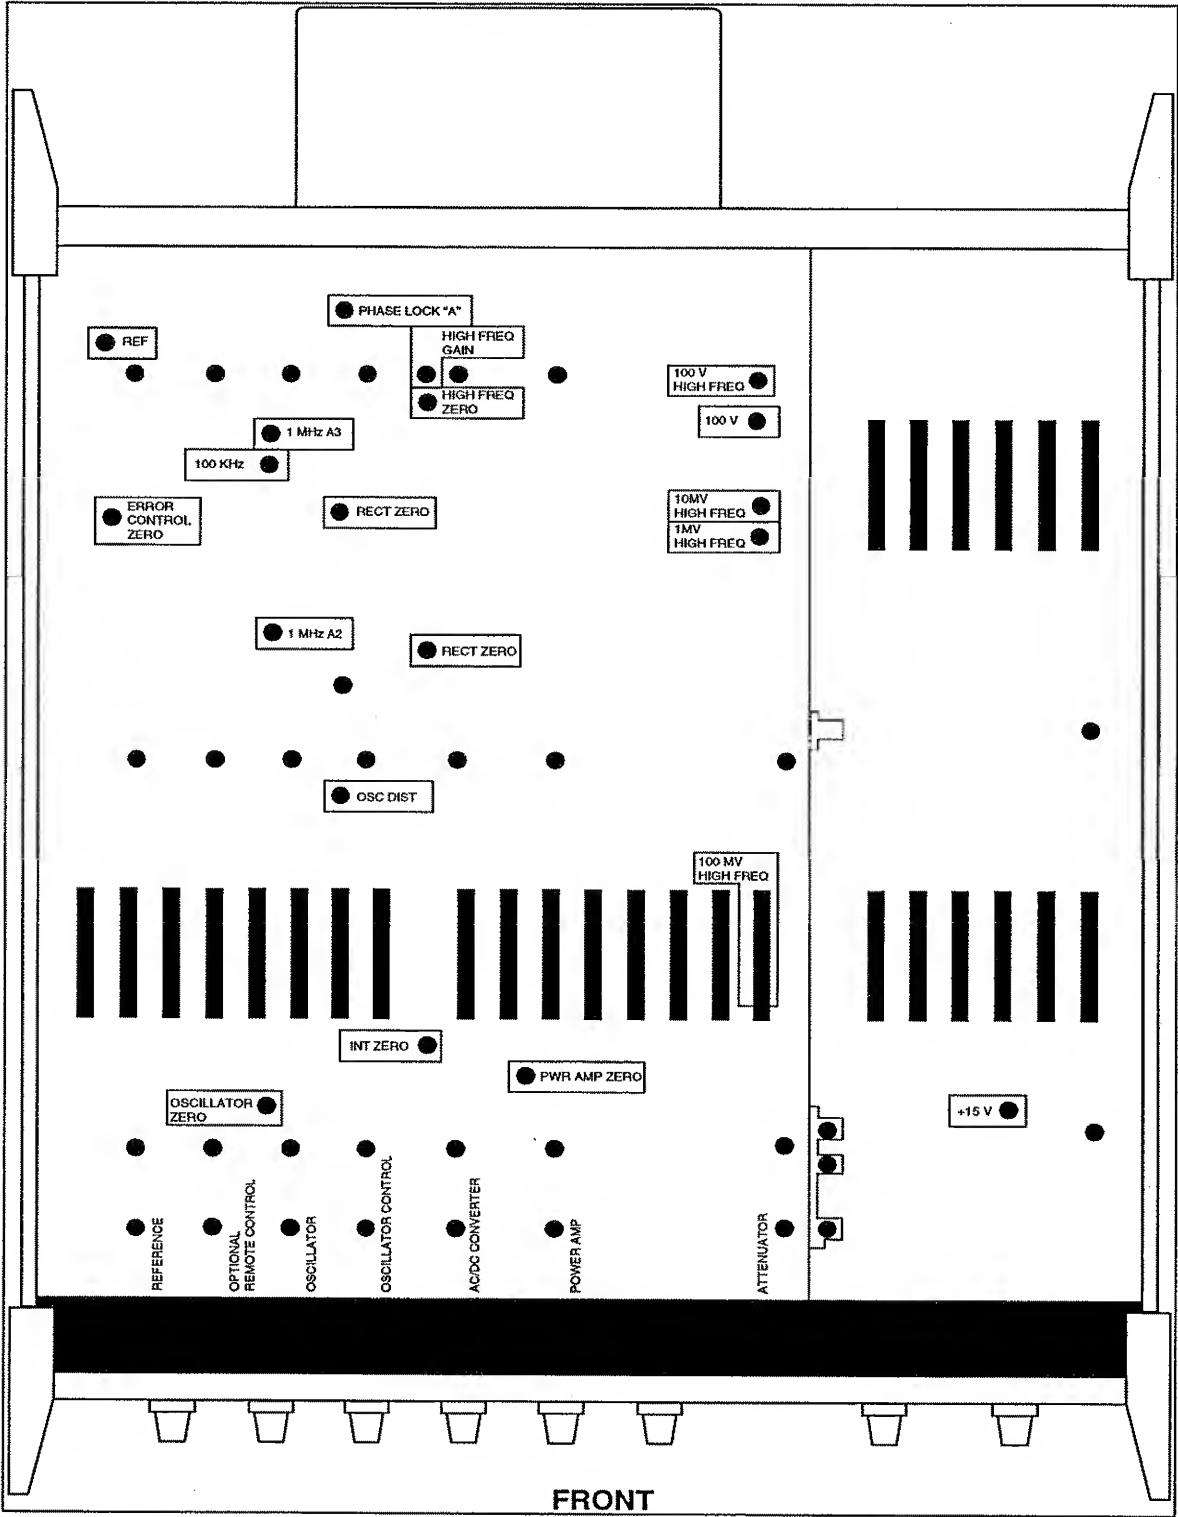

Figure F-6. Labeled Adjustment Ports
2. Make the adjustments through the marked ports in the instrument compartment inner cover as shown in Figure F-6.
The following procedures deal with voltage amplitude and linearity for the 1 mV, 10 mV, and 100 mV ranges. Install the inner covers and firmly secure for these tests. Make the adjustments through the marked ports in the instrument compartment inner cover as shown in Figure F-6. Perform the tests in sequence ensuring that the Equipment Set-Up procedure has been performed prior to starting the test.